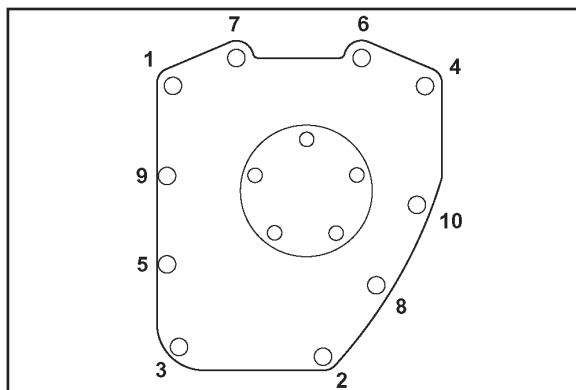

Figure 6
- P- Use a new gasket and install cam cover. Tighten cover bolts to 90-120 in-lbs. torque in sequence shown. **See Figure 6** below.